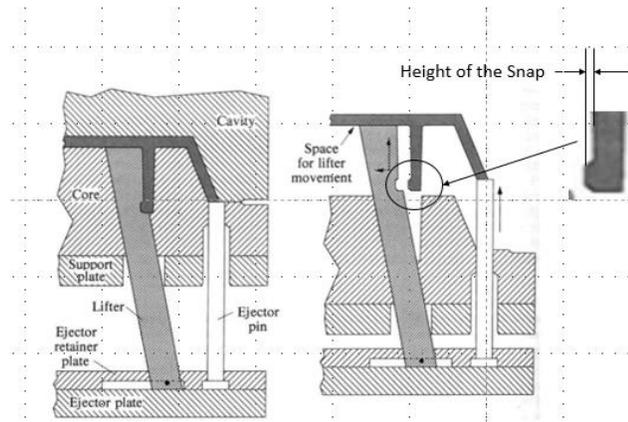

Figure 3 (1)
- Dimensions created by moving parts within one half of the tool: See Figure 3. The actual height of the snap feature depends on the exact position of the lifter from shot to shot.